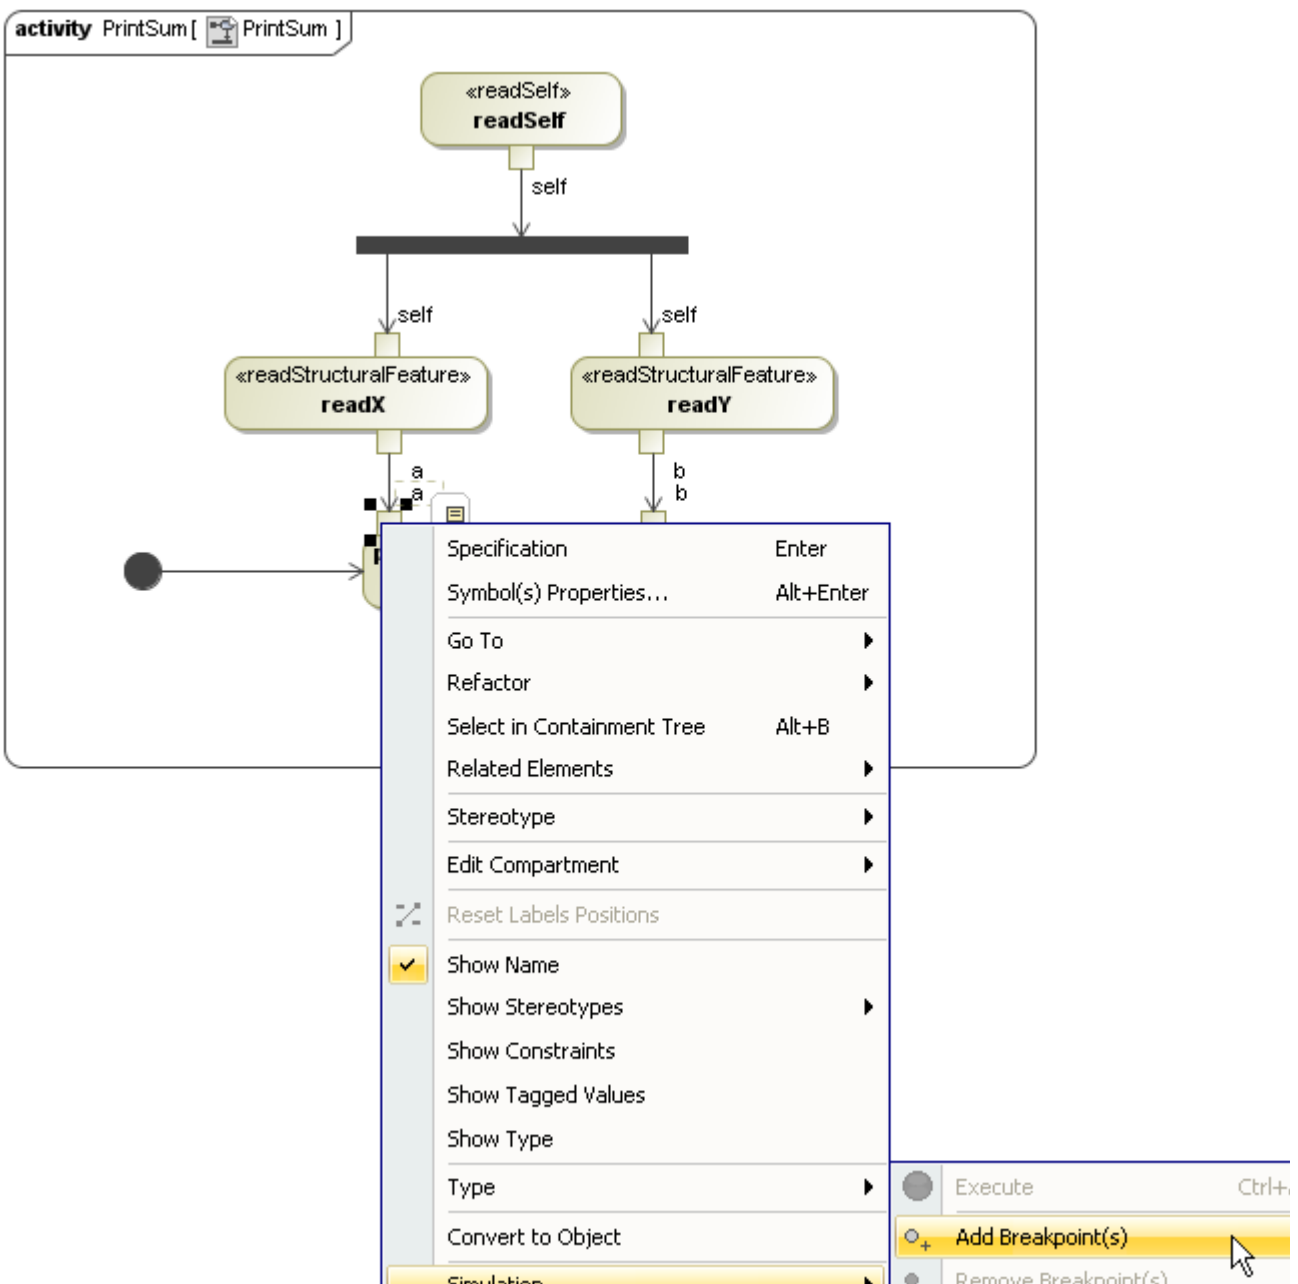
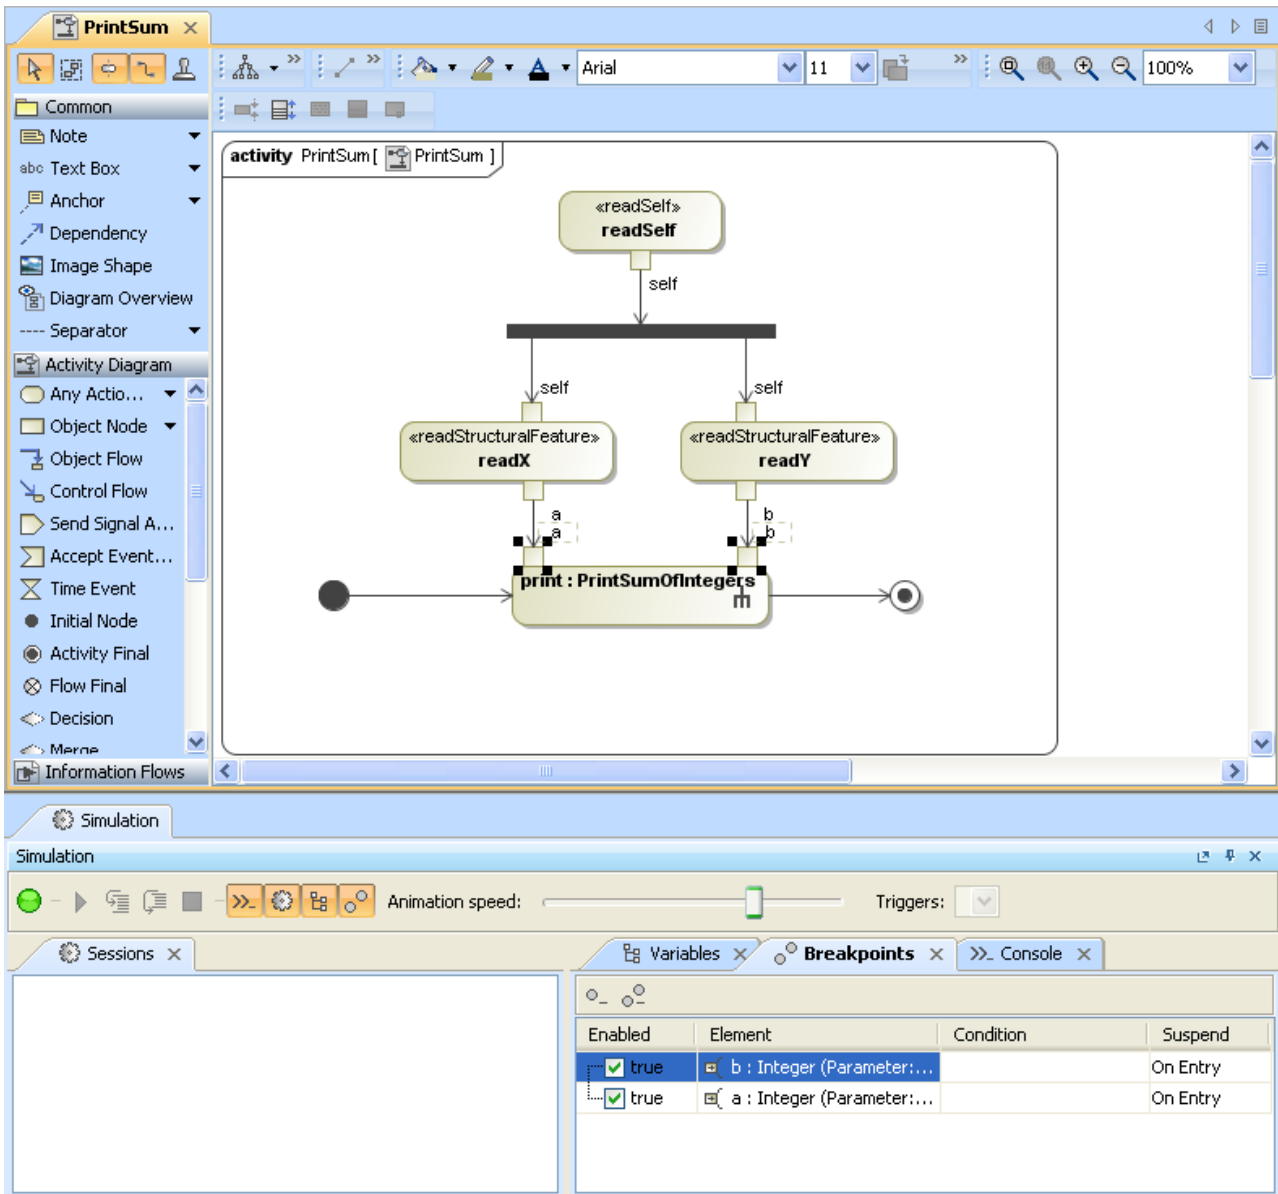

Figure 77 -- Adding Breakpoints to Pin **a** of **print** Action
Figure 78 -- Breakpoints Pane in Simulation Window
1. Right-click an element and select **Simulation > Add Breakpoint(s)** (Figure 77). The breakpoints will be shown in the **Breakpoints** pane of the **Simulation Window** (Figure 78).